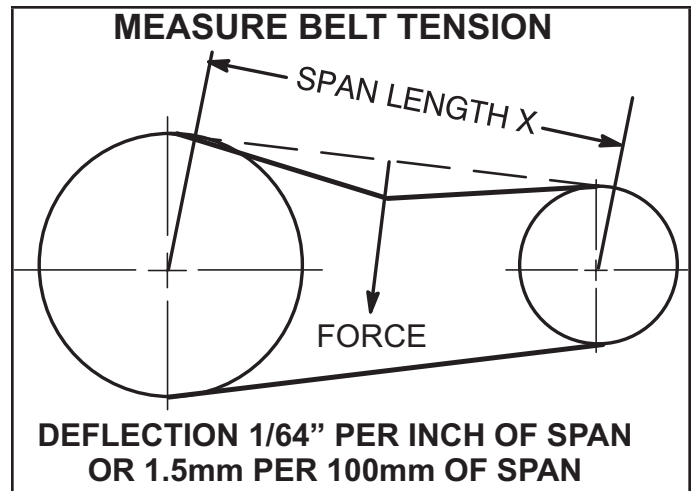

FIGURE 22
- 1 - Measure span length X. See FIGURE 22.
- 2 - Apply perpendicular force to center of span (X) with enough pressure to deflect belt 1/64" for every inch of span length or 1.5mm per 100mm of span length.